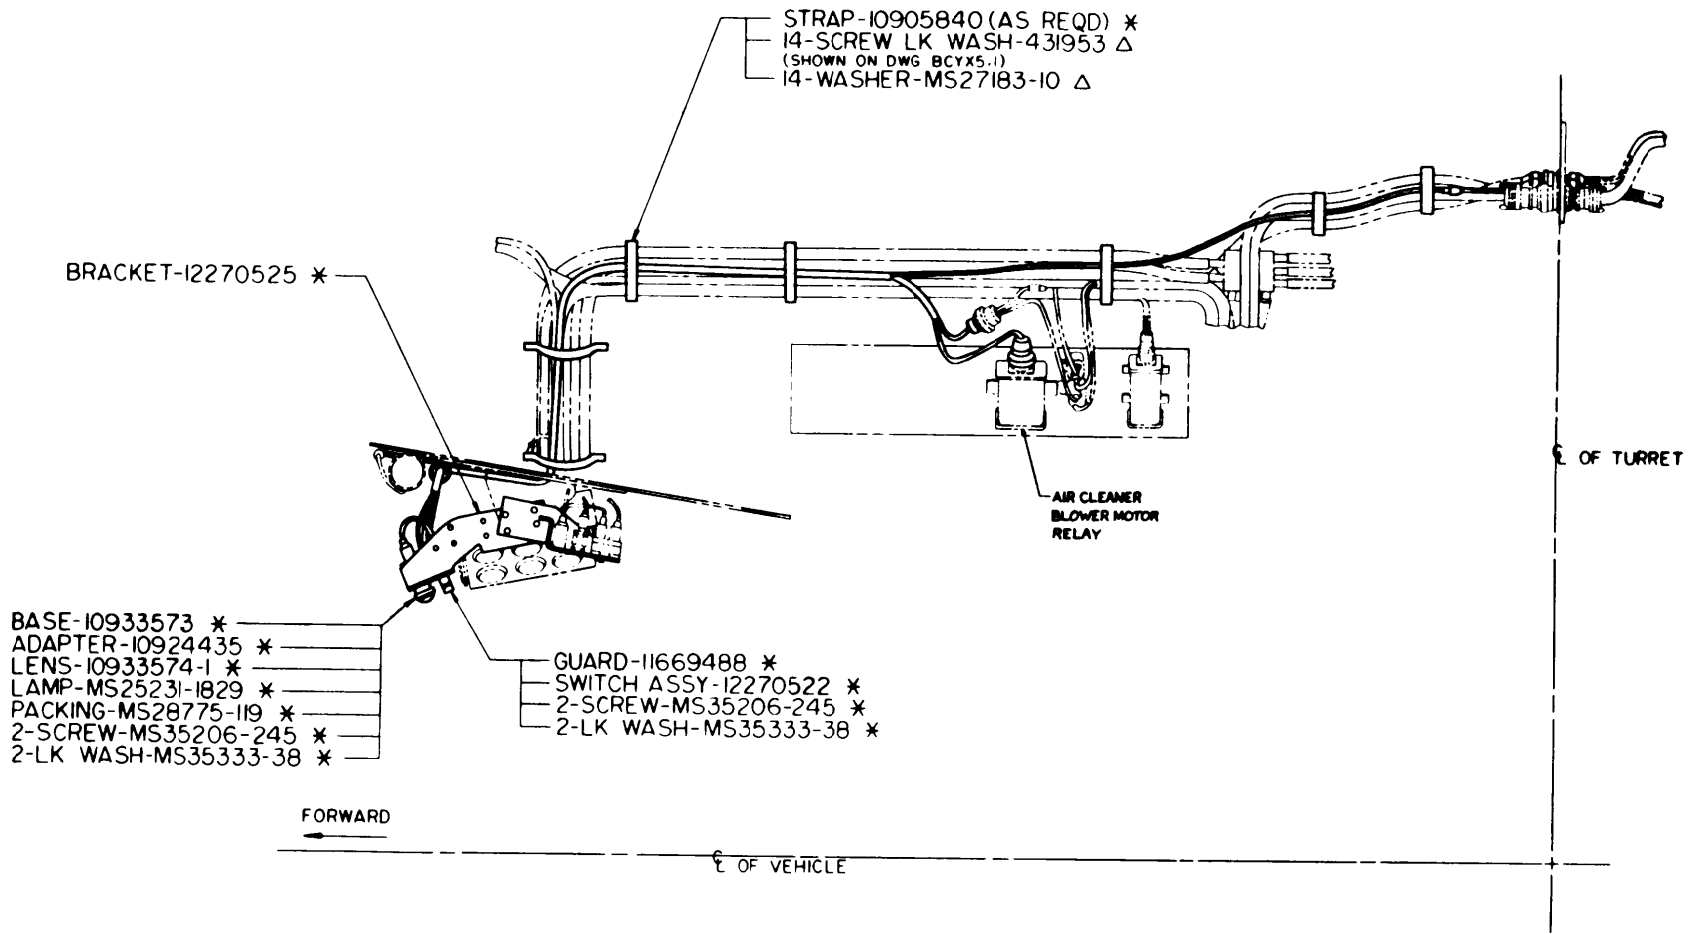

Figure 39. Top View of Harness Kit Installation for M728
- (a) For M728 vehicles the existing hydraulic pump control panel bracket 10951574 must be installed along with the switch bracket 12270525 (refer to figures 39 and 40).
- (b) For M60A1 vehicles equipped with a dozer kit, the existing hydraulic pump control panel bracket 10951613 must be reworked as shown and installed along with the switch bracket 12270525 (refer to figures 39 and 40).